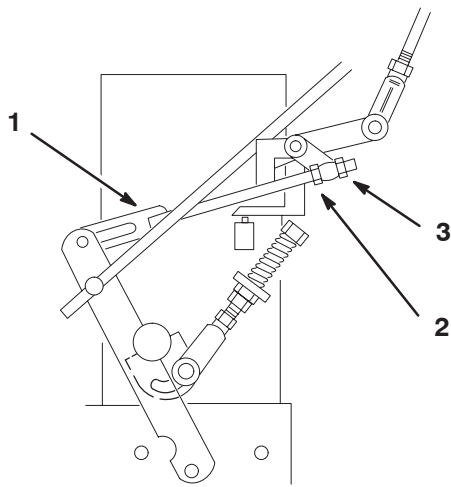

Figure 50
8. Loosen the front nut on left hydro control linkage as shown in figure 50.
9. Turn the left rear adjusting nut counter-clockwise until wheel rotates forward (Fig. 50).
10. Turn the rear adjusting nut clockwise 1/4 of a turn at a time. Then move the speed control lever forward and back to neutral. Repeat this until left wheel stops rotating forward (Fig. 50).